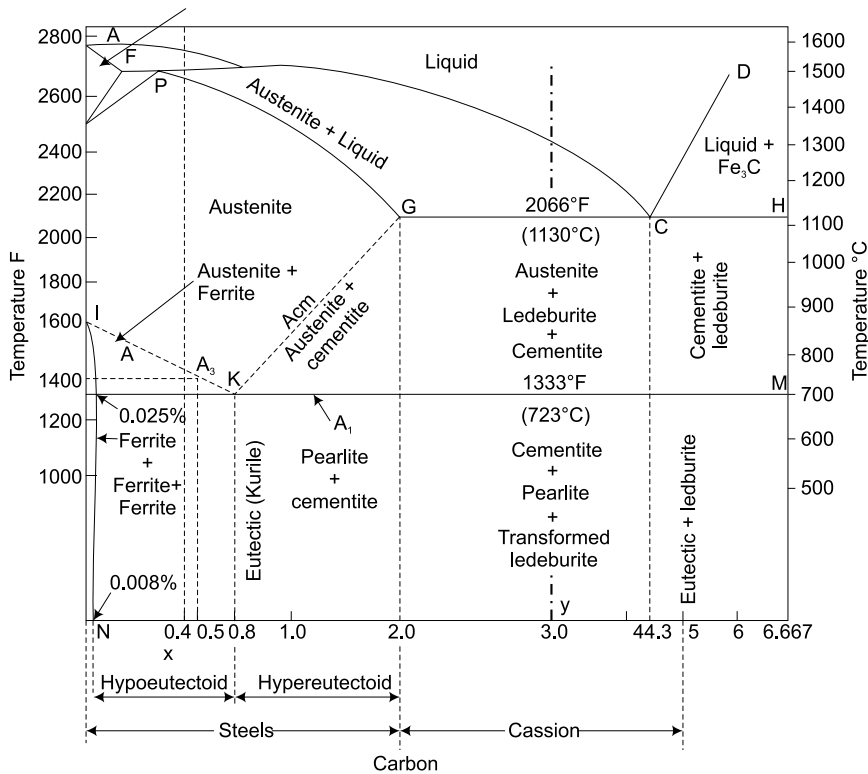

Fig. 6.5 Equilibrium diagram for Fe-C system
The equilibrium relationship in alloys of iron and carbon are given in Fig. 6.5. The diagram is divided into a number of phases fields, each occupied either by a single phase or a mixture of two phases.
7. From the diagram, it is clear that austenite is not stable below the upper critical lines A_3 (IK) and A_{cm} (GK).
- (b) For composition between 0.8% to 2%, cooling results in separation of cementite and the composition of remaining austenite varies along the lines A_3 (GK) until again the point K is reached.
9. Changes taking place on cooling hypoeutectoid steel (i.e., containing less than 0.8%C) can be illustrated by discussing cooling of steel containing say 0.4% C. This is represented in the diagram by the line xx . When this steel is cooled from point “1” along xx , freezing begins at point “2”, which is the point of intersection of the xx line with the liquids line ABC . Complete solidification of an alloy occurs at point “3”. As cooling proceeds, no change occurs until the point “4” on line A_3 is reached, where the precipitation of ferrite (from the solid phase of austenite) begins. Further cooling results in simultaneous increase of ferrite and decrease of austenite content along line IK . The composition of ferrite varies along the line IL . It may be pointed out that at any point in the regions ILK , the percentage of ferrite and austenite can be computed from the lever rule. For example, at 1380°F (see the horizontal dashed line in Fig. 6.5) the austenite contains 0.5% C and ferrite contains 0.02% C. Consequently, the amount of austenite in the alloy will be